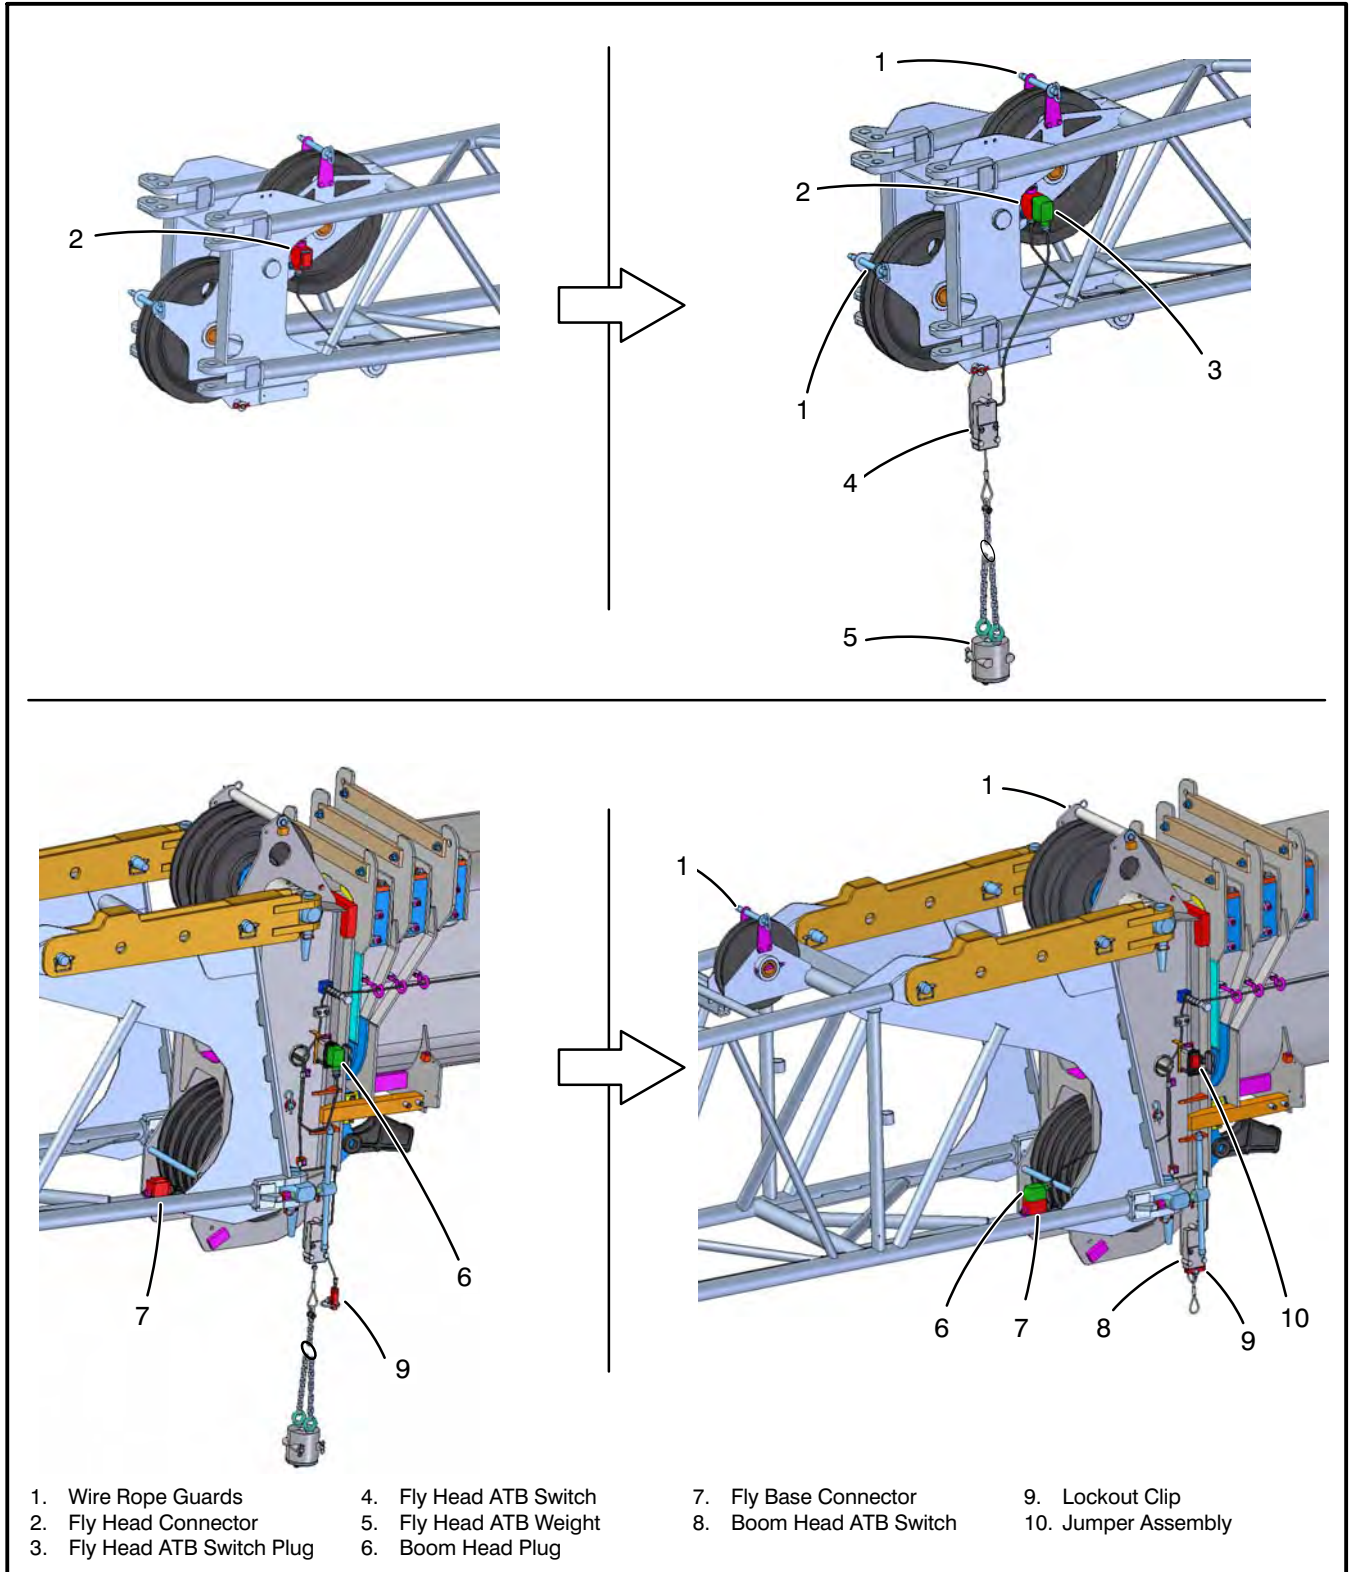

Figure 4-8
10. Remove the wire rope guards from the fly base and boom head deflector sheaves. Refer to Figure 4-8. Reeve the winch wire rope over the